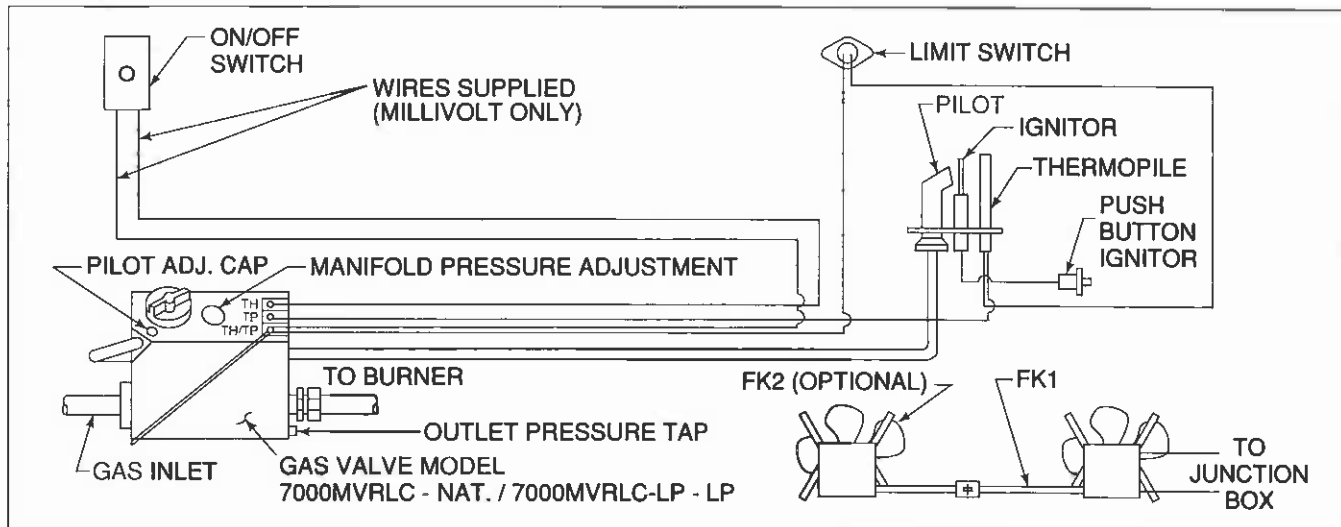

Figure 5
Remote wall switch hook-up should be installed in a convenient location. Follow Figure 5 for wiring diagram. If an optional FK1 Fan Kit or RC4 Remote Control are to be used, 110 Volt power supply is required and must be done at this time to prevent reconstruction at a later date. The appliance must be electrically wired and grounded in accordance with local codes or, in the absence of local codes, with National Electric Code ANSI/NFPA 70-latest edition. Wiring diagrams are provided with these accessories and in Figure 5. This appliance is not intended for use with a thermostat.
1. Remove the pilot adjustment cap. See Figure 5.